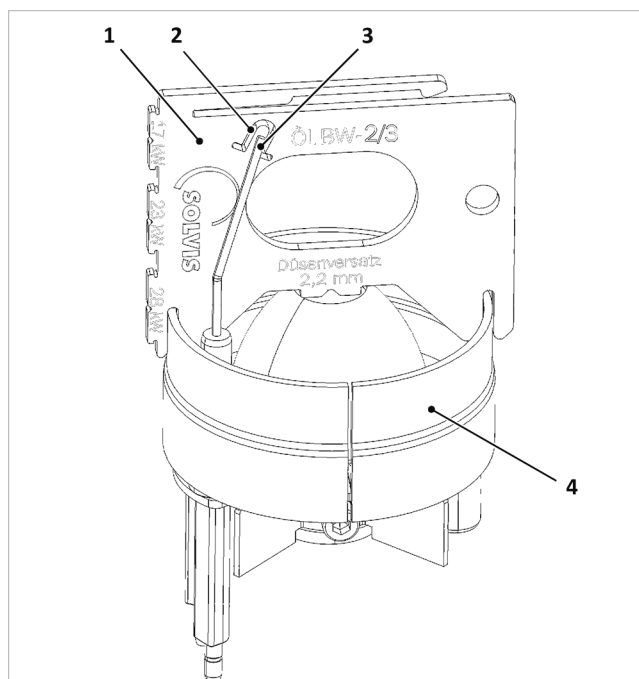

Fig. 57: Checking the position of the ignition electrodes
4. Check the electrodes as shown in the → Fig. 57 and correct them by carefully bending them, if necessary.